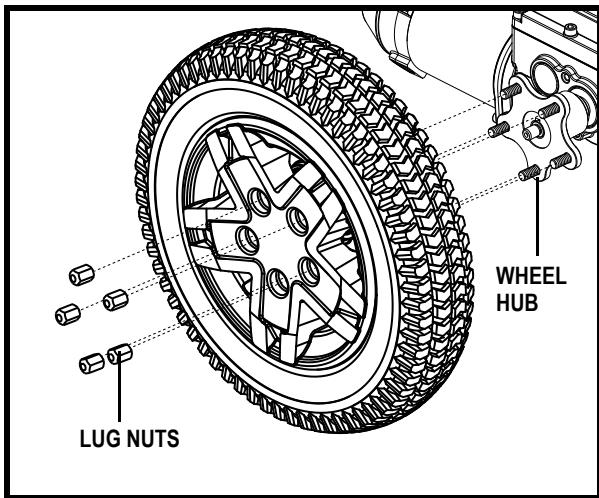

Figure 23. Quantum Q4 Drive Wheel
4. Remove the (5) lug nuts from the wheel hub. See **figure 23**.